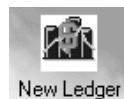

Figure 5-7. New Ledger button
- Click the **New Ledger** button (Figure 5-7) in the listbar.